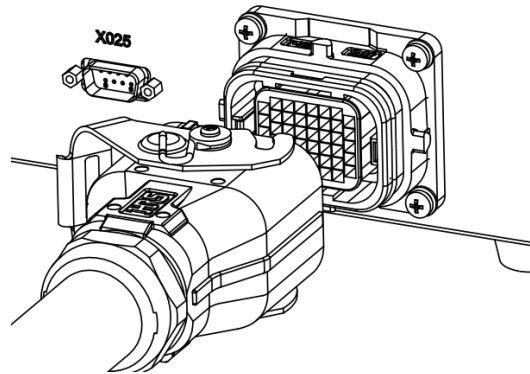

Figure 5-4 Control cabinet heavy-duty connector interface
Step2. Connect the control cabinet, insert one end of the heavy-duty wire plug into the heavy-duty wire connection port of the control cabinet (see Figure 5-4), and tighten the locking buckle.